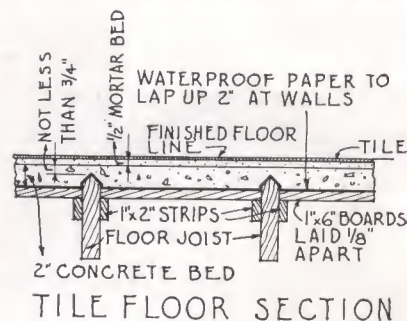

FIGURE 91
- (b) The bed into which the tile floor is to be laid consists of a 2-inch bed of concrete, on top of which is a 1/2-inch bed of mortar (see Figure 91).